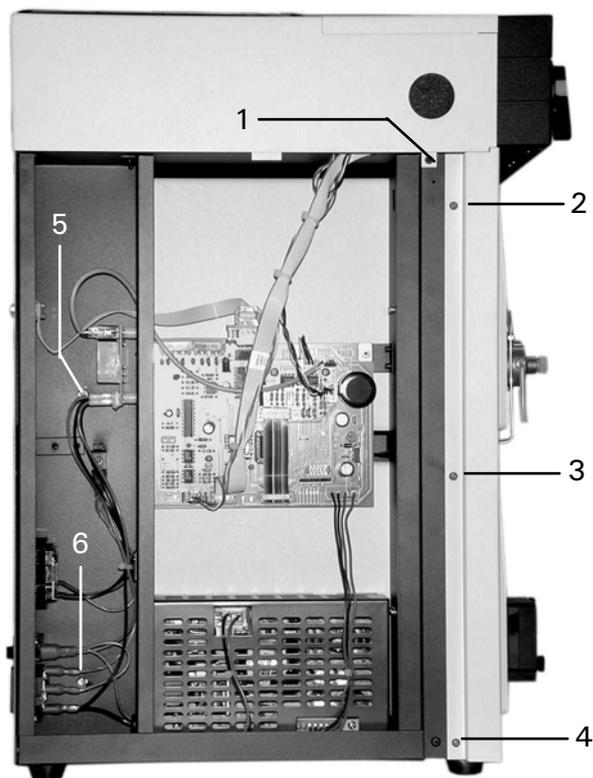
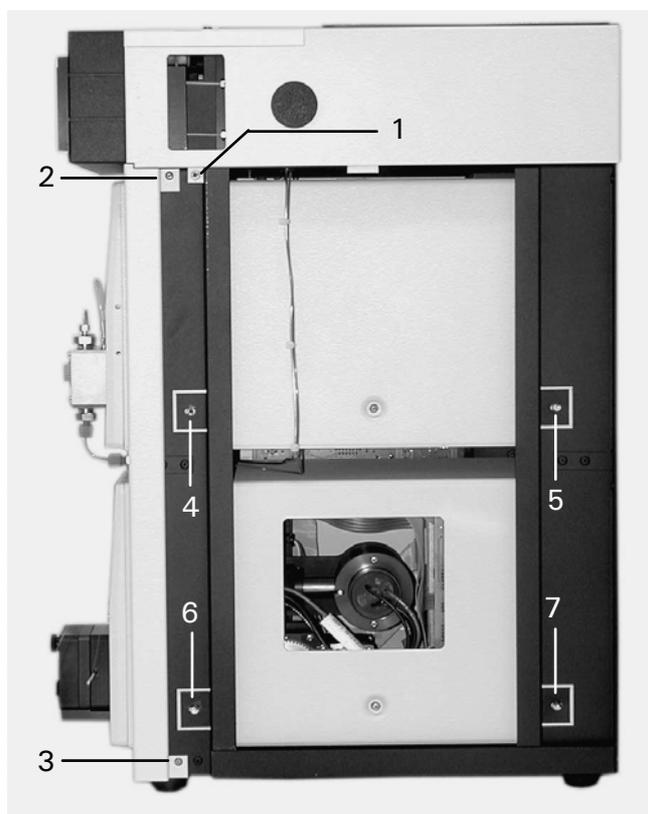

FIGURE 3-21. Left Side Panel Removed
FIGURE 3-22. Right Side Panel Removed
When left side panel is removed, the view is as shown in FIGURE 3-21 and when the right side panel is removed, the view is as shown in FIGURE 3-22.
- e) Remove the screw on the left side and the two screws on the right of each device (items 5, 6; FIGURE 3-21 and items 1-4, FIGURE 3-22).